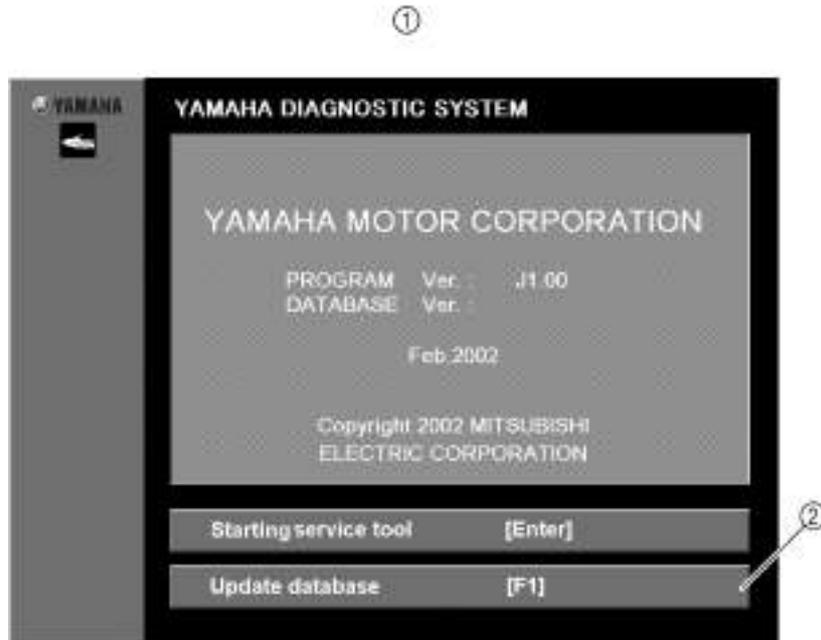

Fig. 12
3. After about three seconds the display will automatically go to the first menu display, or you can click or press any key to go to the first menu. (See fig. 12.)
4. Click the **Update database [F1]** button or press the F1 key on your keyboard. (Fig. 12)